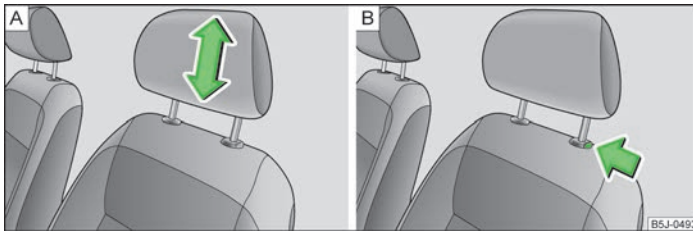

Fig. 40 Head restraint: adjusting/removing
- Grasp the side of the head restraint with both hands and push it upwards as required » Fig. 40 - A.
- To move the head restraint downwards, press and hold the safety button » Fig. 40 - B with one hand and press the head restraint downwards with the other hand.
- Press the locking button in direction of the arrow » Fig. 40 - B and pull the head restraint out.